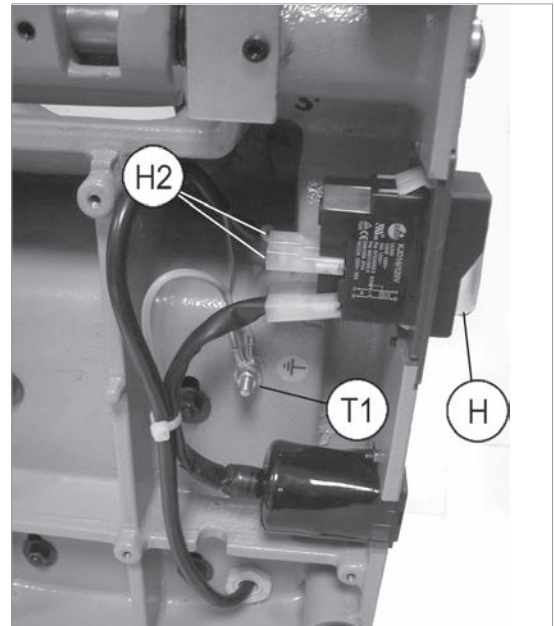

Fig. 43
- 2) Disconnect the 2 connectors (H2). Loosen the nut (T1) and disconnect the earthing wire (Fig. 43).